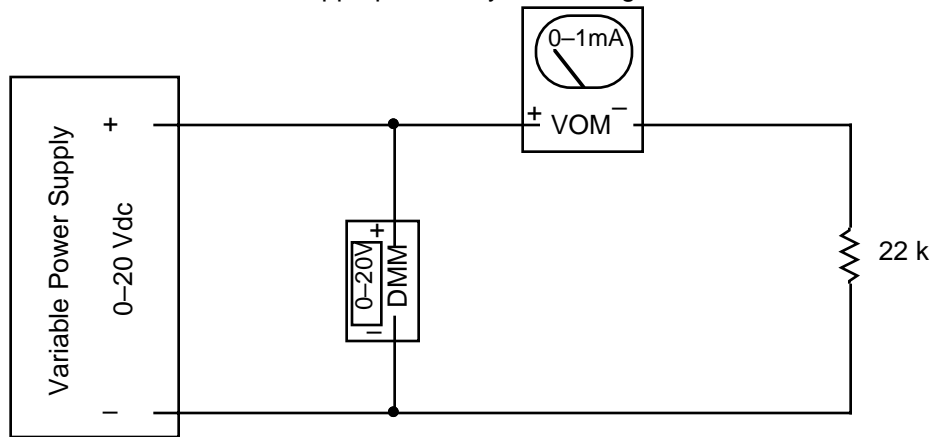

Fig 1.1
a) Verify Ohm's law for a 22 k Ω resistor. Use an analog volt-ohm meter (VOM) for the current measurement and measure the voltage with a digital multimeter (DMM). Use the circuit of Fig. 1.1. When using the meters, start from the least sensitive scale and increase sensitivity until you get to the most sensitive scale appropriate for your reading.